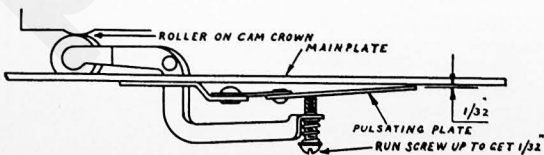

FIG. 6
When the turntable is revolving the pulsating plate of the reject mechanism should clear the main plate by  $\frac{1}{32}$  of inch when the crown on the cam attached to the underside of the turntable touches the pulsating lever roller at its highest point. See Figure 6. To make this adjustment proceed as follows:
1. Rotate turntable until the crown of the cam under turntable touches roller of pulsating lever as shown in Figure 6.